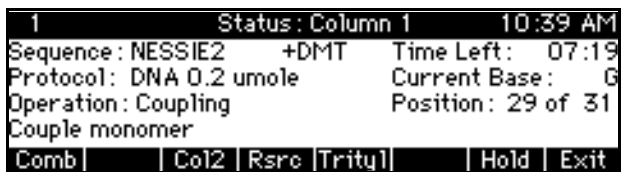

Figure F-3 Status: Column # Menu
- From the Status: Combined menu select **Col1** or **Col2** to display the Status: Column # menu shown in Figure F-3.